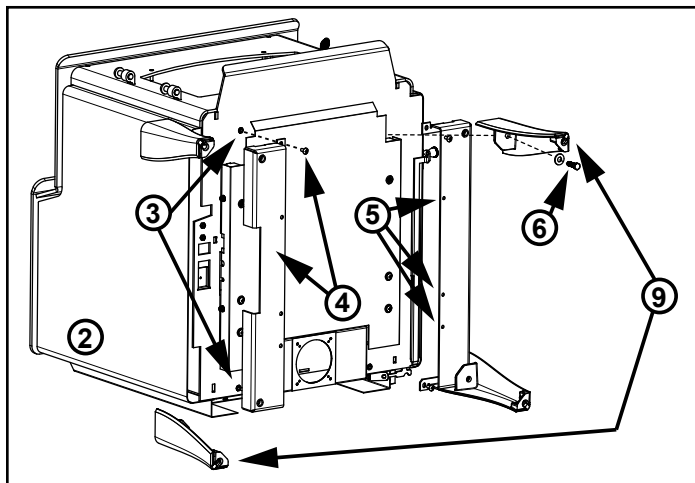

Figure 22.1
3. Remove four screws from bottom of appliance (**Figure 22.1**).
NOTE: There is a right and a left of the leg brackets (**Figure 22.1**).
5. Install six screws to the bottom of the leg brackets (**Figure 22.1**).
NOTE: Legs with leveling bolts need to be on opposite sides of the appliance - one in the front and one in the back (**Figure 22.1**)